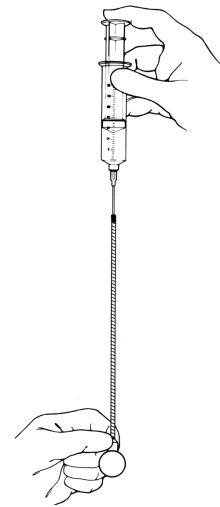

Figure 4-3b. Fill Balloon
6. Fill balloon with 20 cc of filling solution. (**Figure 4-3b**)